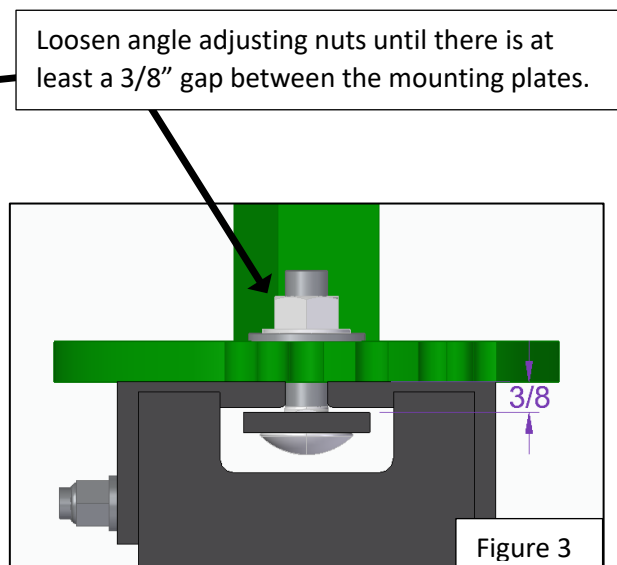

Figure 3
- Loosen the angle adjustment nuts shown in Figure 3.